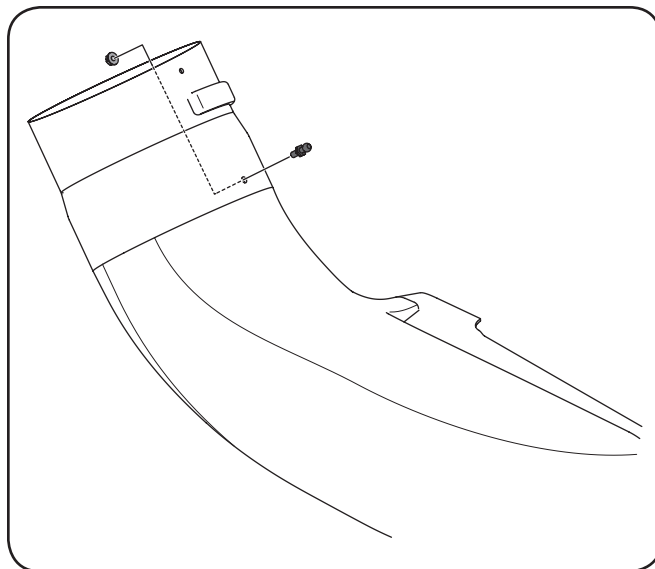

Figure 4-18
1. Locate the discharge chute elbow and install the grass-catcher pin (911-04069) from hardware pack 689-00326 to the chute elbow in the hole provided as shown in Figure 4-18. Secure the grass-catcher pin with a flange lock nut (912-3027) from the same hardware pack.